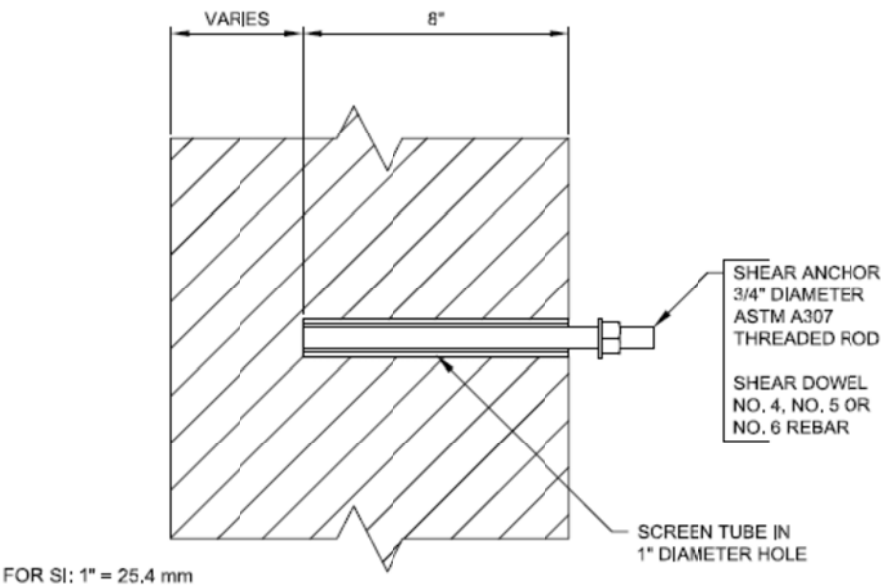

FIGURE 1—HILTI HIT-HY 70 ADHESIVE SHEAR ANCHOR OR DOWEL (CONFIGURATON A)
**4.1.1 Configuration A, Threaded Rods or Steel Reinforcing Bars in Shear (Shear Anchor or Rebar Dowel):** Configuration A is the anchor assembly resisting shear loads only. Configuration A consists of a 3/4-inch-diameter (19.1 mm), ASTM A307 threaded rod or a No. 4, No. 5 or No. 6 reinforcing bar and a 1-inch-diameter-by-8-inch-long (26 mm by 200 mm) plastic-mesh screen tube (HIT-SC 26x200). Figure 1 shows details of an installed shear-resisting assembly.
**4.3.2 Configuration A:** Holes for threaded rods or reinforcing bars intended to resist shear only must be drilled perpendicular to the wall to a minimum embedment depth of 8 inches (203 mm). The holes must be cleaned with a wire brush and compressed air to remove debris. The Hilti HIT-HY 70 adhesive must be injected into the supplied plastic mesh screen tube that is then inserted into the predrilled hole. The threaded rod or reinforcing bar must be inserted and pushed into the screen tube in a rotating manner to force the adhesive into the hole. Figure 1 illustrates an anchor installed in this configuration. Figure
CONFIGURATION A – SHEAR ANCHOR OR REBAR DOWEL (FIGURE 1)